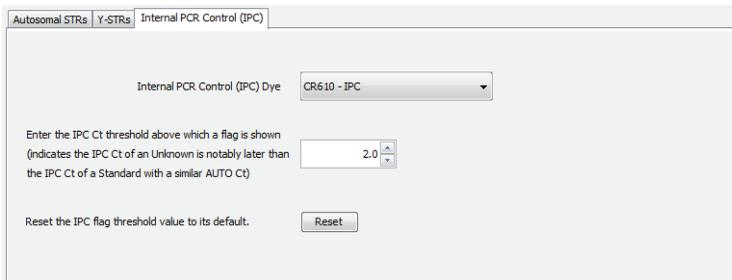

Figure 41. The Internal PCR Control (IPC) tab.
10. Select the Internal PCR Control (IPC) tab (Figure 41). If desired, modify the IPC C_q threshold, which defines the acceptable difference between the IPC C_q values in DNA standards and samples. The default value is 2 cycles. If the IPC C_q value in a sample differs from the IPC C_q value in the DNA standard by more than 2 cycles, “Check IPC” will be displayed in the Forensics report for that sample. See Section 6.E for more details about interpreting IPC results and modifying this value.
IPC Status: An indication of whether the difference between the sample’s C_q values for the IPC and DNA standard is greater than the designated threshold in the Internal PCR Control (IPC) tab (Figure 41). A difference of less than the designated threshold is indicated as “OK”; a difference greater than the threshold is indicated as “Check IPC”.
The IPC is amplified and detected in the CR610 dye channel under PCR Curves. These data can provide an indication of potential inhibition that may have affected the quantification data (FL and CO560 data). By comparing IPC C_q values for unknown samples with IPC C_q values for DNA standards, inferences regarding the presence of inhibitors can be made. Decreasing the IPC threshold above which a flag is shown (Figure 41) will increase the sensitivity to differences in the C_q values, while increasing the threshold will necessitate greater IPC C_q value differences to present the Check IPC flag.